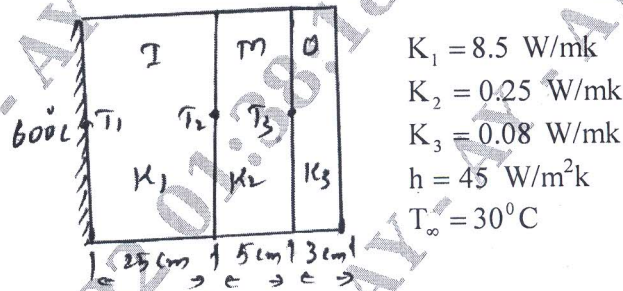

Fig. Q9 (b)
b. An induction furnace wall is made up of three layers, inside, middle and outer layer with thermal conductivity  $K_1$ ,  $K_2$  and  $K_3$  respectively shown in Fig. Q9 (b). Determine nodal temperature. (10 Marks)